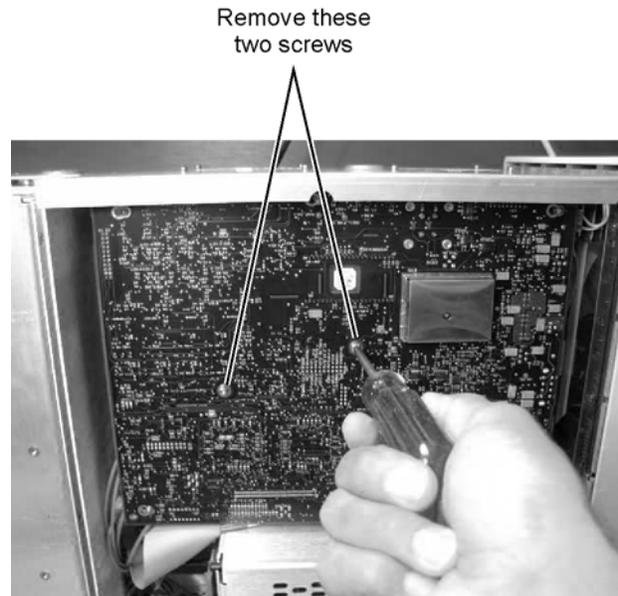

Figure 7-62. Removing the A13 Acquisition Board Screws
- 3 Turn the instrument on its side so that you can access the screws that secure the A13 Acquisition board, then remove the two screws, as shown in Figure 7-62.